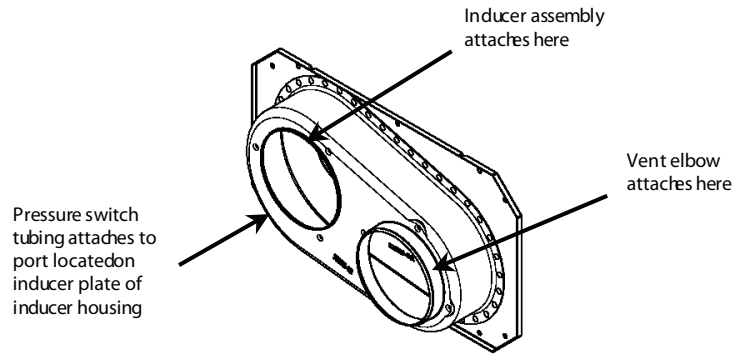

Fig. 2 – Front View of Inducer Housing
5. Place new inducer motor gasket provided in kit around flange on inducer housing (See Fig. 2).